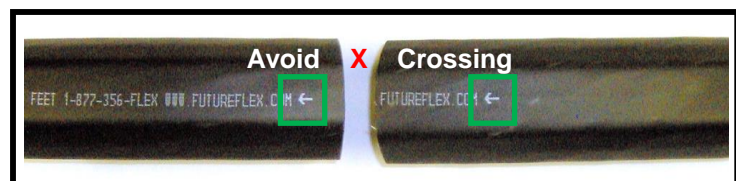

Figure 1a
6.1 Key Step. Before installing a Tube Cable Splice Kit, verify that both Tube Cable ends will mate properly so that their Tubes will not be crossed / twisted when coupled. See Sumitomo Recommended Procedure **SRP: SP-F04-008** and. See Fig. 1a